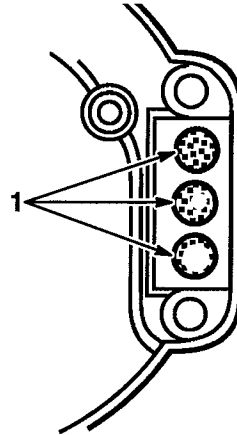

Figure 34
5. Rotate crankshaft slowly until piston covers exhaust ports (Fig. 34).